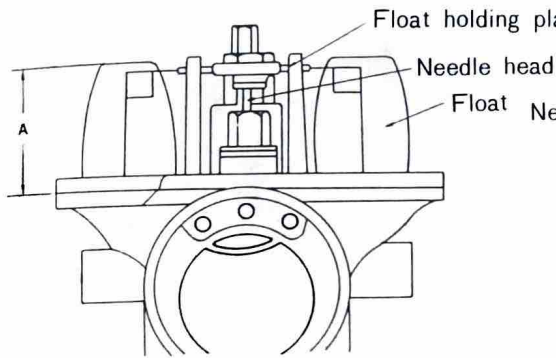

Fig. 4-19-6
- 2) Then measure height A in Fig. 4-19-6 (From the top of the float to the float chamber gasket seat.)